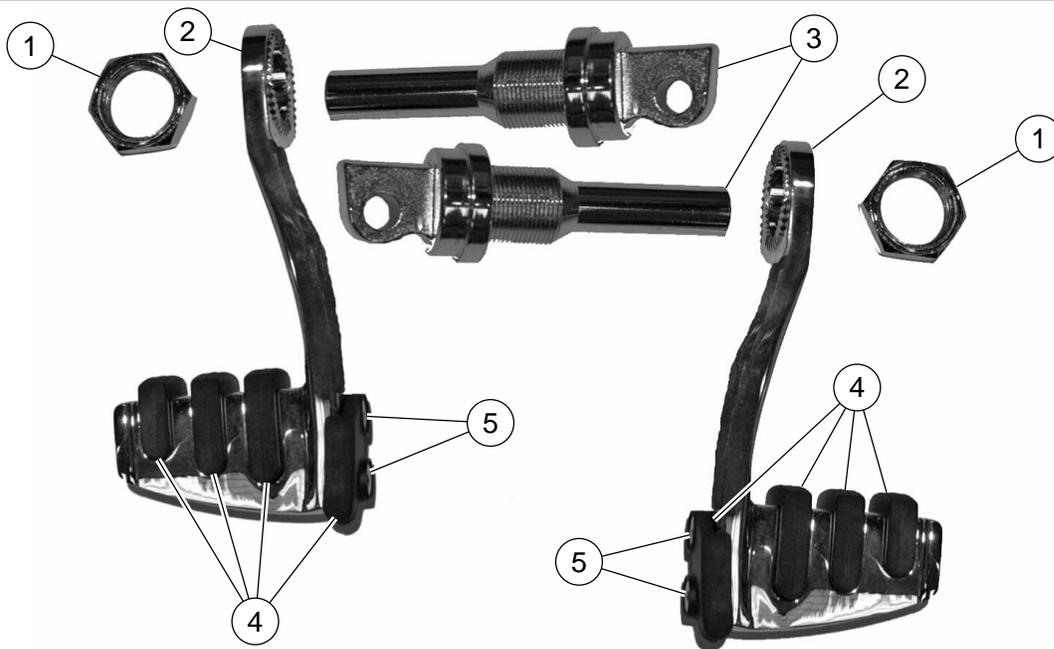

Figure 3. Service Parts
See Figure 3 and Table 1.
3. See Figure 2 and Figure 3. Place the right-side Airfoil Rider Heel Rest on the Airfoil Rider Heel Rest mount, positioning the heelrest at the desired angle.